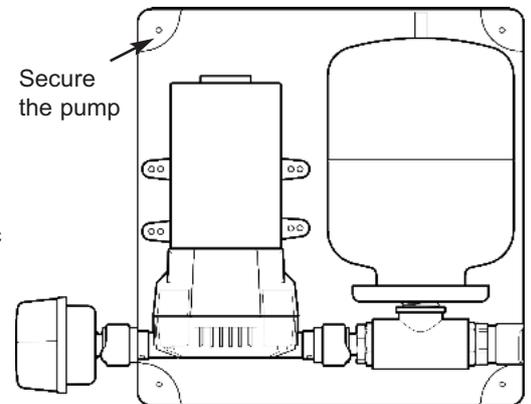

Fig 2 - Recommended Kit Mounting Orientation
- Step 3** The pump can be mounted horizontally or vertically. We recommend that the pump head is mounted below motor level (Figure 2). For advice on your specific installation, please contact Whale® support.
- Step 4** There are 4 mounting holes in the accumulator tank base. Use 4 self-tapping stainless steel screws and washers to fasten base to solid surface and support the accumulator securely (Figure 2).